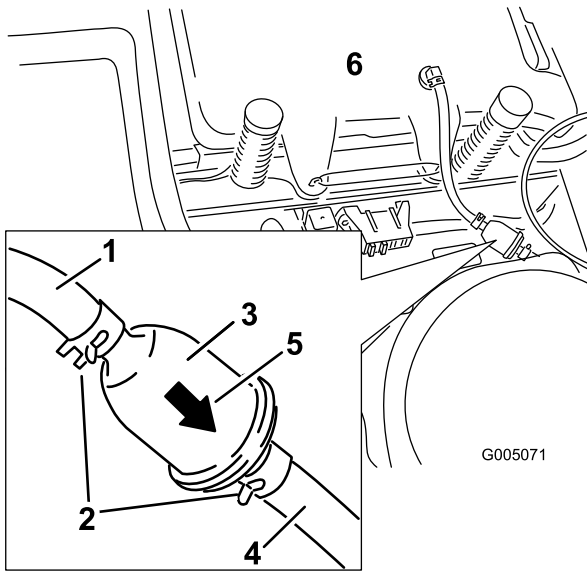

Figure 31
4. Squeeze the ends of the hose clamps together and slide them away from the filter (Figure 31).
6. Install a new filter with the flow direction arrow coming from the fuel tank and pointing to the engine. Move the hose clamps close to the filter (Figure 31) to secure it in place.